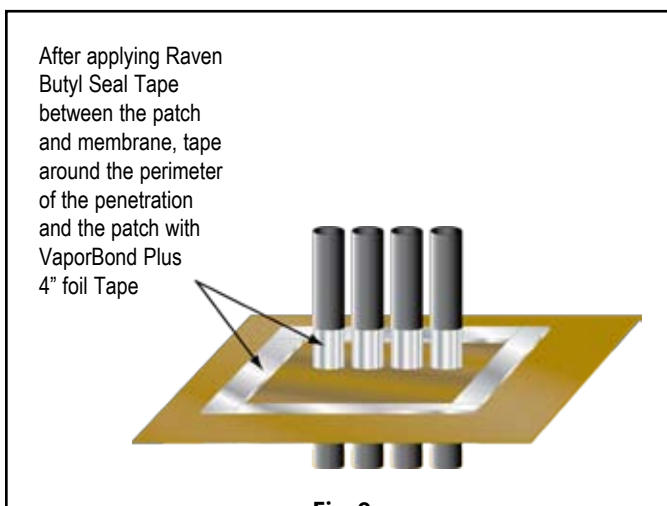
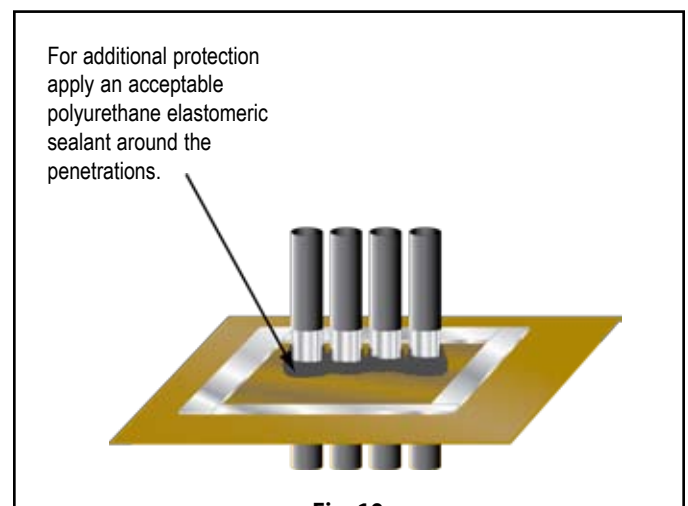

Fig. 9
Fig. 10
- E) After applying Raven Butyl Seal Tape between the patch and membrane, tape around each of the penetrations and the patch with VaporBond Plus 4" foil tape. (Fig. 9) For additional protection apply an acceptable polyurethane elastomeric sealant around the penetrations. (Fig. 10)